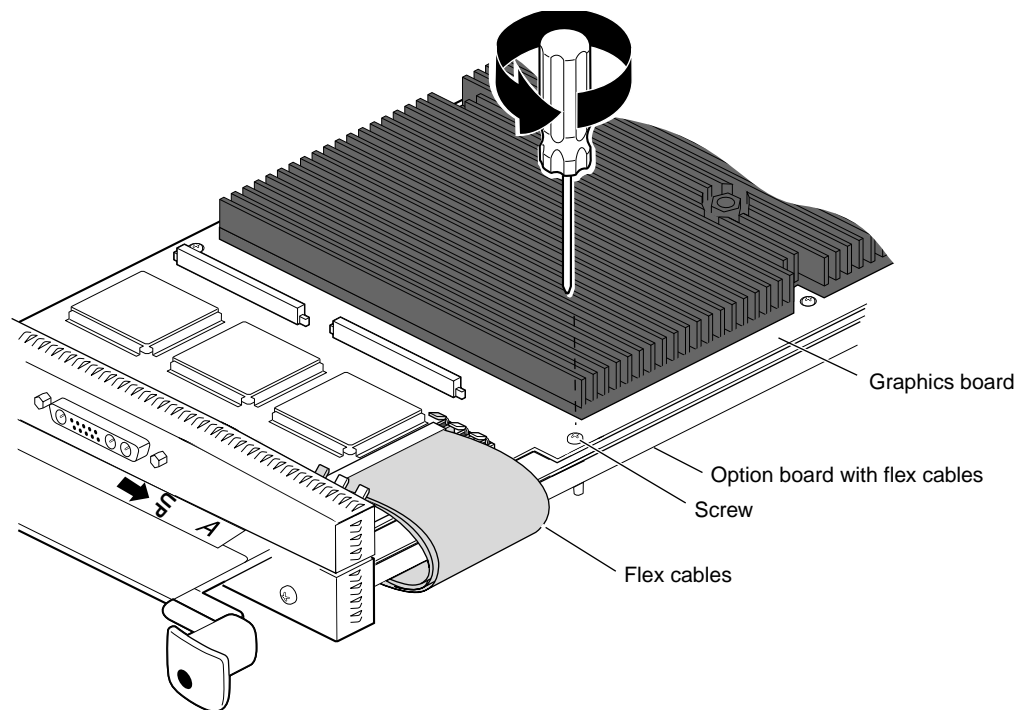

Figure 5-26 Removing the Screw From the Graphics Board
1. Remove the screw from the graphics board, as shown in Figure 5-26.